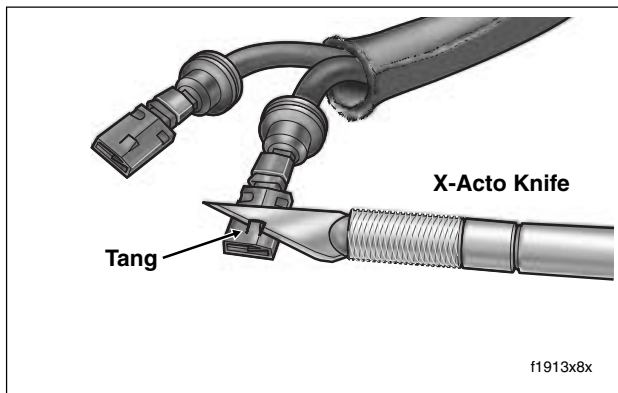

Figure 3-18. Bend Tangs Outward on Socket Terminals of Stator/Voltage Regulator Connector
- a. Using a fingernail or a thin flat blade, like that on an X-Acto knife, carefully bend the tangs outward away from each terminal body. See Figure 3-18.